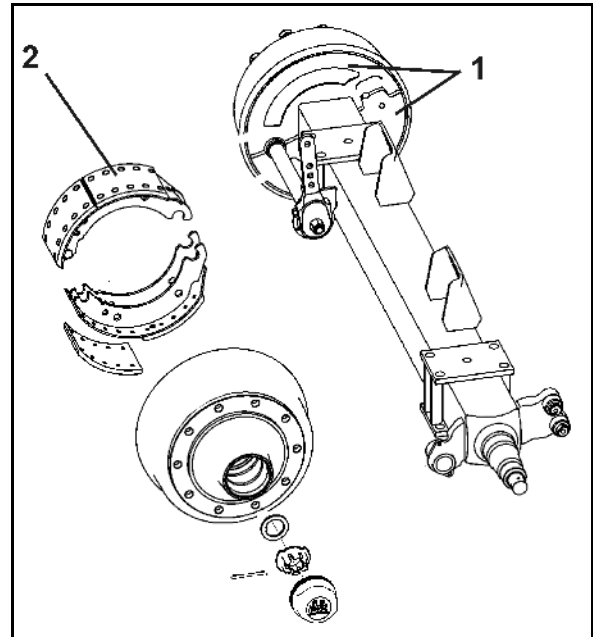

Fig. 114
1. Unscrew the two cover plates (Fig. 114/1) on the inside of the brake drum.
Dirt entering the drums may be deposited on the brake pads (Fig. 114/2) and thus appreciably reduce brake performance.